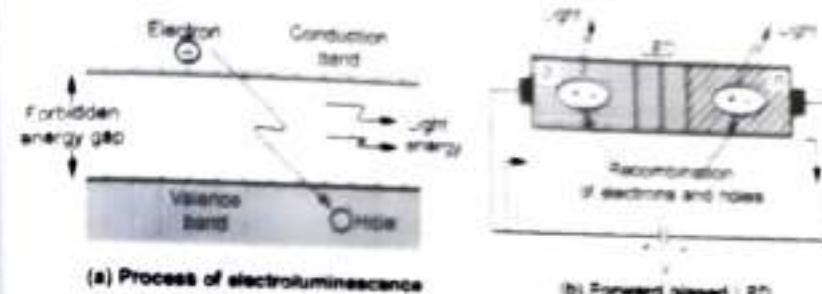

Fig. Q42.1 Principle of operation of LED
- The Fig. Q42.1 shows the principle of working of LED.